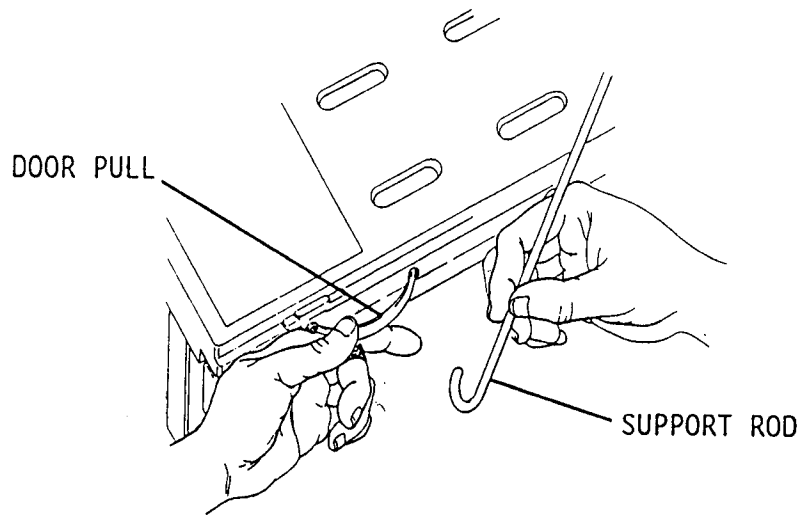

FIGURE 8. Checking the Support Rod Installation
5. Raise the Gum and Mint Magazine into the loading position and verify that the Support Rod will engage the Door Pull. See Figure 8.